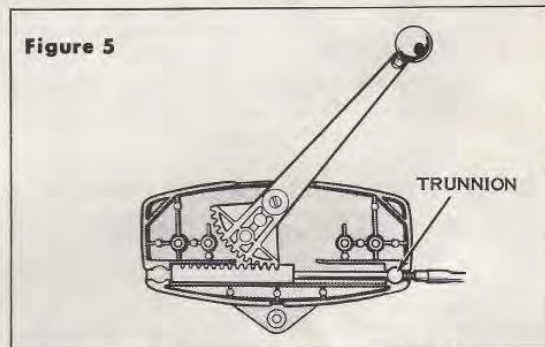
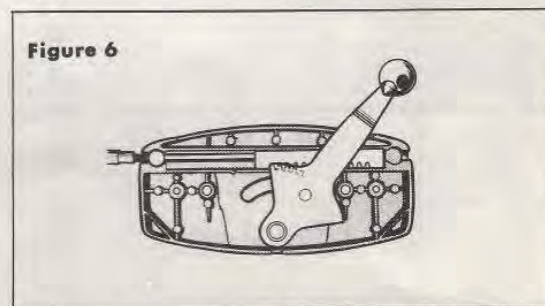

Figure 5
Figure 6
3. Insert racks and cables in control box. Trunnions on cables must fit in bosses on control box. See Figure 5. Be sure last tooth of speed control lever gear segment engages last tooth of rack (See Figure 5) and last tooth of shift control lever gear segment engages last tooth of rack (See Figure 6).